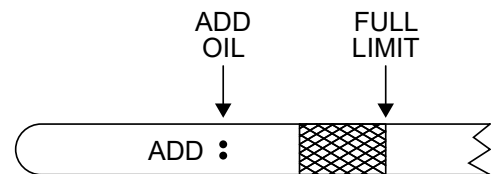

Figure 62. Engine Oil Level
4. Determine if engine oil is low. Oil should be between the upper and lower marks (Figure 62) on the dipstick.